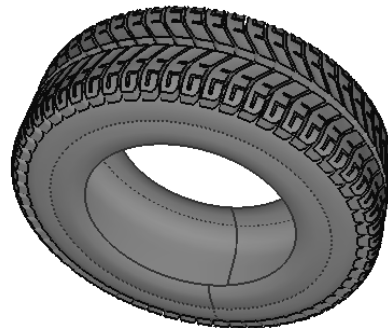

Figure 7-96 Mirror copies of all treads
10. Select the **XY** radio button from the **Mirror Across** area and then choose the **Go** button from the **Mirror Options** dialog box; mirror copies of the tread are created, as shown in Figure 7-96.